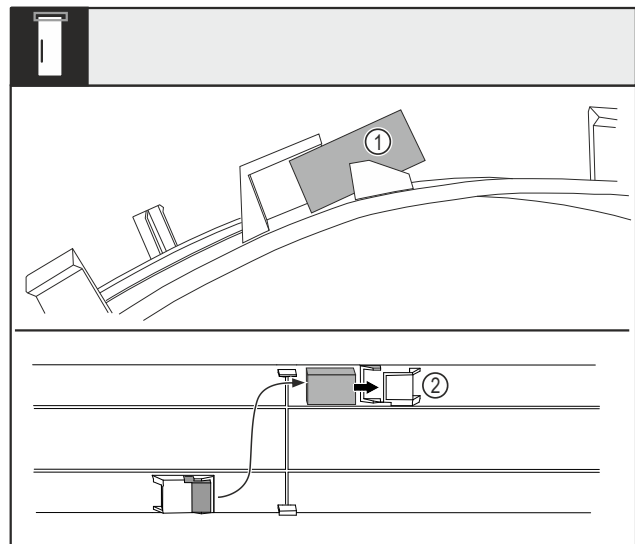

Fig. 5
- Bend the cover and pull the door magnet Fig. 5 (1) out of the retaining clip.
- Insert the door magnet into the other retaining clip Fig. 5 (2).